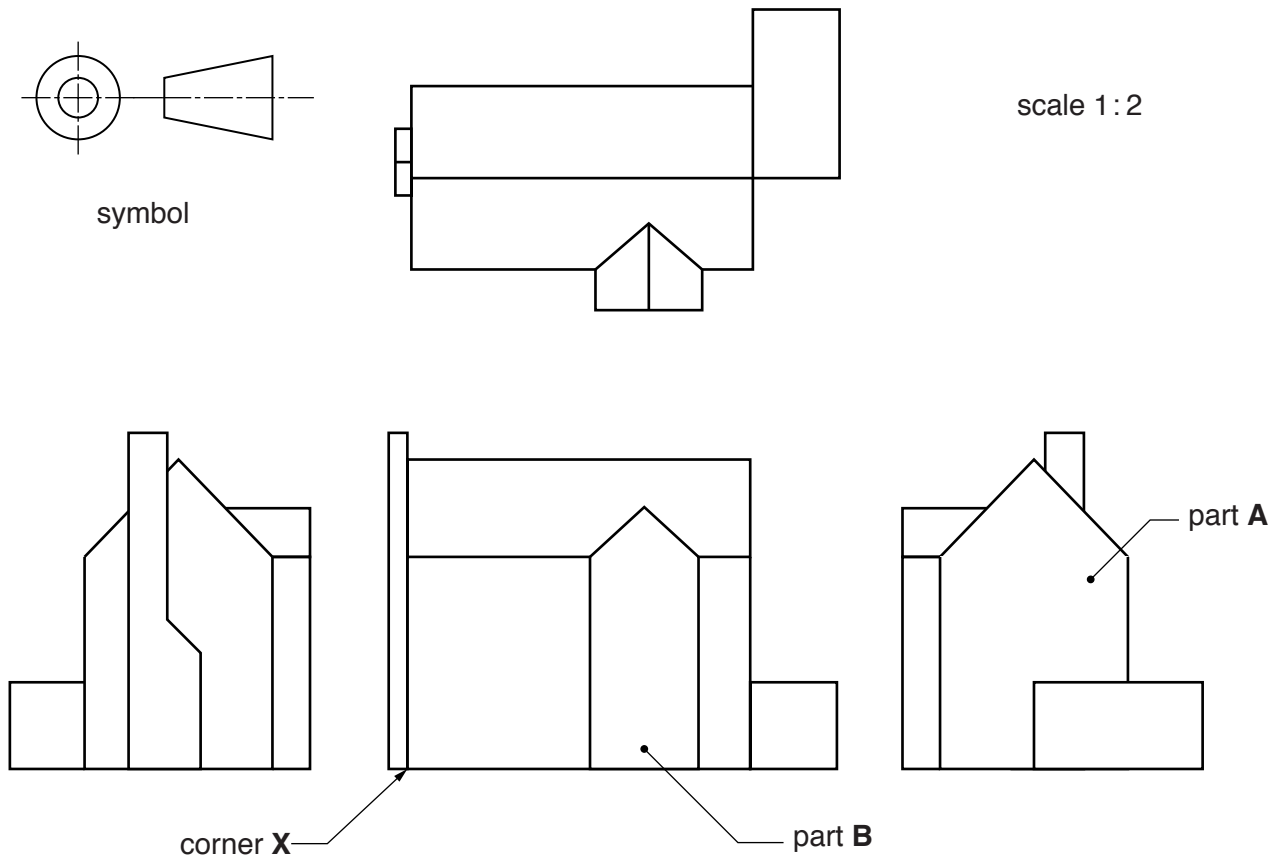

Fig. 2
- 2 Fig. 2 gives details about a model of a house, made from card, which is to be produced in a school workshop.